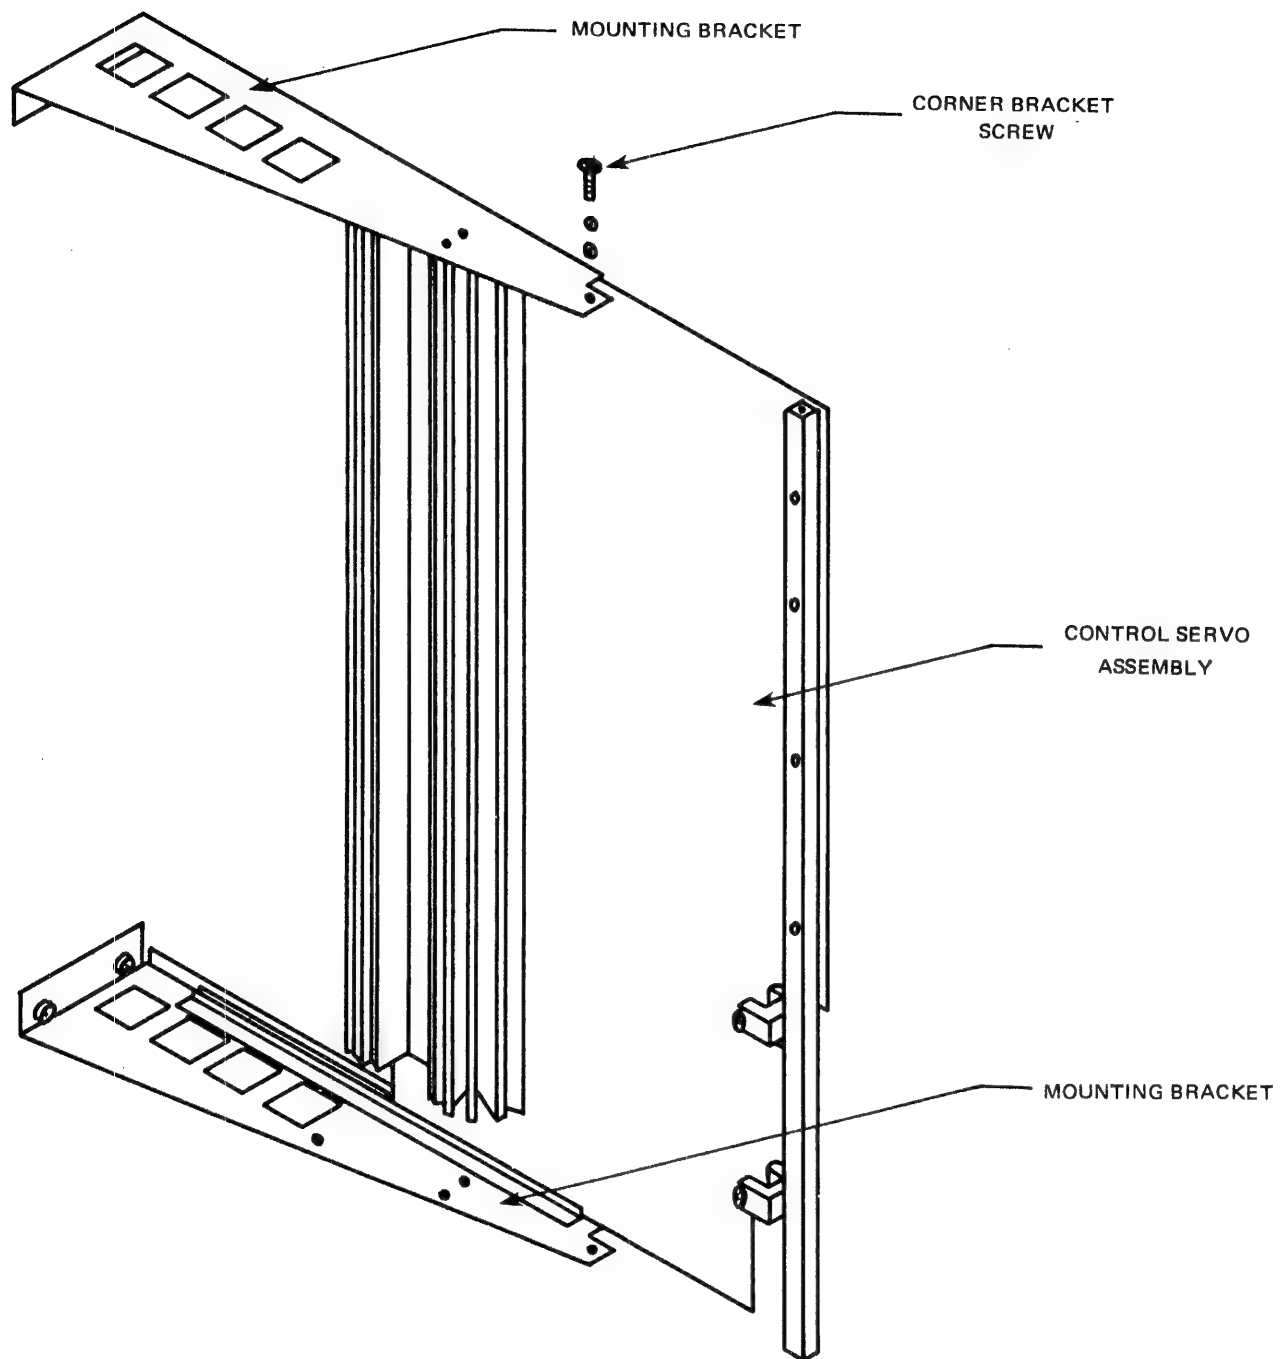

Figure 5-8. Control/Servo Board Removal
- b. Remove screws from corners of mounting bracket as shown in Figure 5-8.